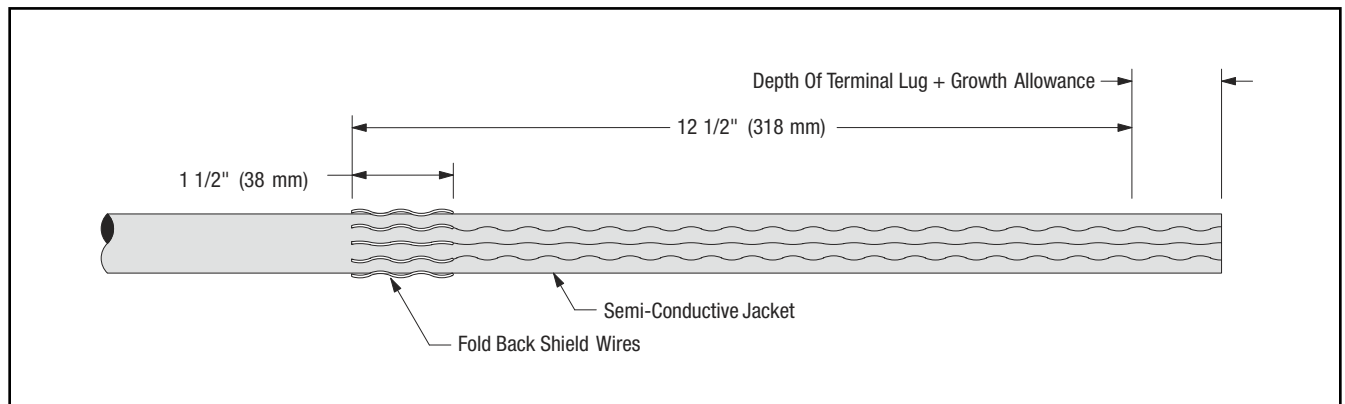

Figure 17
11.4 Remove constant force spring. Bend shield wires back upon cable jacket 1 1/2" (38 mm). Cut excess shield wire and discard (*Figure 17*).